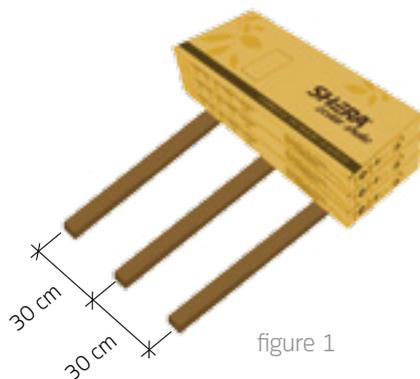
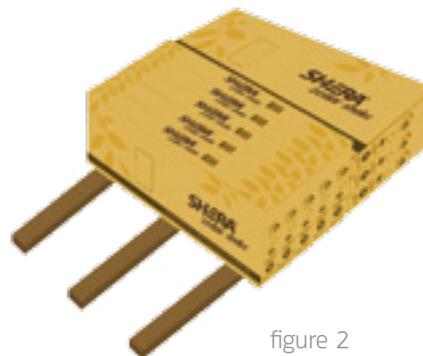

figure 1
figure 2
2. Clean roof top before installing the underneath sheet. Divide two sided glue tape into two parts, open glue tape sides one by one only, follow extended figure 1. Install the sheet one side at a time from end ridge roof till the roof top, clearing all the excess air inside to make it as close as possible to the roof including the side of the roof. Try to keep the distance of the sheet not to cross the side by 8 cm., follow extended figure 2. Place the ended side of the sheet to overlap the other side of the roof tile, follow extended figure 3. In case of extended sheet is needed for joint, the overlapping area between sheets should be 5 cm., follow extended figure 4. After that open the last side of glue tape, and install the sheet on the other side of the ridge till the last line.
3. Apply the same installation process to the roof top sheet installation by beginning from the point where the roof top and the ridge roof are connected, follow extended figure 1, and press the sheet to clear out all excess air in between, follow extended figure 2.
1. Install log ridge to rooftop and ridge roof one side at a time. Cut log ridge ends to level with eaves. Measure inward from the tip of the log ridge to 15 cm. and fix first screw, follow extended figure 1. Fix the log ridge with 2-inch screw\* at the center of the log ridge at every 40 cm., follow extended figure 2, along the length of the log ridge. Make sure the screw head is flush with top of the log ridge, not over or under driven.
3. Install the log ridge at the rooftop one side at a time. Cut the ends at joint properly, follow extended figure. Fix the log ridge with 2-inch screw\* at the center of the log ridge at every 40 cm., follow extended figure 2, along the length of the log ridge. Make sure the screw head is flush with top of the log ridge, not over or under driven.
Extended figure 1
See extended figure 1, 2, 3
Extended figure 2
4. Install another side of ridge roof with log ridge, follow figure 1, and fix with 2-inch screw\* following the procedure as explained in point number 3. Use trowel patching up the screw heads on the log ridge with acrylic filler\*\* follow extended figure 2, and use paintbrush to paint covering patch up area properly follow extended figure 3.
1. One box of *SHERA* zedar shake roof tile contains 3 sizes of tiles, which are 10, 15, and 20 cm. wide. We can start with any size as per preference. For example, use the 20 cm. size first and follow by 15, and 10 cm. accordingly, follow extended figure. Line all tiles as close as possible to each other follow extended figure 1. A choice of widening the gap between tiles is possible not more than 6 mm. without leakage follow extended figure 2. Fix with 1-inch screw and tighten with electric screw driver.
1. Select a size from 3 sides of *SHERA* zedar shake tile and line up in a staggered format at 3 levels; in the level of purlin, 2 cm. over purlin and 4 cm. over purlin. For example, start with 20 cm. size at 2 cm. over the purlin level. Then follow by the tile of size 15 cm. at 4 cm. over the purlin level. Next line up the 10 cm. size at 2 cm. over purlin, follow extended figure. Line them close to each other follow extended figure 1 or choose to widening the gap between tiles not more than 6 mm. without leakage. Fix with 1-inch screw and tighten with electric screw driver.
2. Clean roof top before installing the underneath sheet. Divide two sided glue tape into two parts, open glue tape sides one by one only, follow extended figure 1. Install the sheet one side at a time from end gable till the roof top, clearing all the excess air inside to make it as close as possible to the roof including the side of the roof. Try to keep the distance of the sheet not to cross the side by 8 cm., follow extended figure 2. Place the ended side of the sheet to overlap the other side of the roof tile, follow extended figure 3. In case of extended sheet is needed for joint, the overlapping area between sheets should be 5 cm., follow extended figure 4. After that open the last side of glue tape, and install the sheet on the other side of the ridge till the last line.
3. Apply the same installation process to the roof top sheet installation by beginning from the point where the roof top and the gable are connected, follow extended figure 1, and press the sheet to clear out all excess air in between, follow extended figure 2.
1. Install log ridge to cover gable side one side at a time. Cut ends to level with the eaves. Measure inward from the tip of log ridge to 15 cm. and fix first screw, follow extended figure 1. Fix the log ridge with 2-inch screw\* at the center of log ridge at every 40 cm., follow extended figure 2, along the length of log ridge. Make sure the screw head is flush with top of the log ridge, not over or under driven.
3. Install the log ridge at the rooftop one side at a time. Cut the ends at joint properly, follow extended figure 1. Fix the log ridge with 2-inch screw\* at the center of the log ridge at every 40 cm., follow extended figure 2, along the length of the log ridge. Make sure the screw head in flush with top of the log ridge, not over or under driven. Use trowel to patch up all screw heads on the log ridge with acrylic filler\*\*, follow extended figure 2, and use paintbrush to paint covering patch up area properly, follow extended figure 3.
1. To avoid direct exposure to water or moisture, products should be stored under cover and above ground level. Use 3 hard woods size 1" x 2" x 1.20 m. long and lay down separating by 30 cm. each. Place 3 product boxes down horizontally on the wooden logs to avoid damage from falling backward, follow figure 1. After that line up another 5 boxes vertically, follow figure 2.